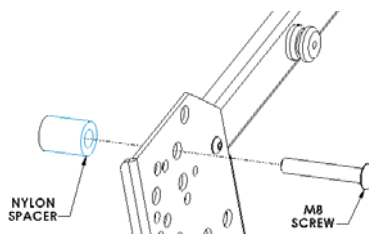
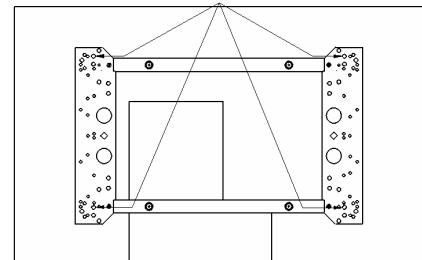

Figure 6
Figure 7
3. Place White Nylon spacers over mounting holes on back of screen. Attach mounting brackets to display using the M8 screws (see Figure 6 & Figure 7). If screen contains a Tuner or Media Box on back of screen, stack black and white spacers over mounting holes and attach using the M8 x 70mm screws.